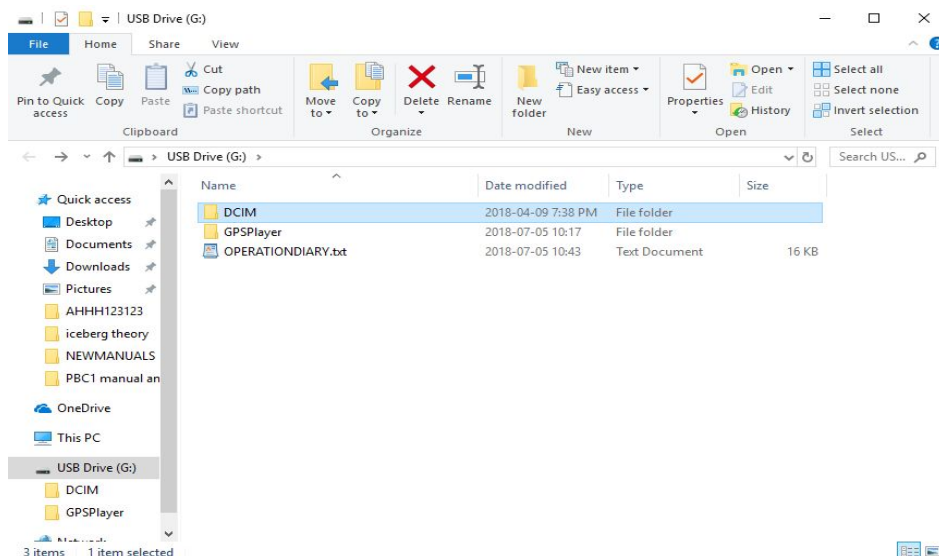

Figure 7
5. Once located (see figure 7), open the corresponding Drive. If the computer does not recognize the camera - unplug the USB cable and plug back in.